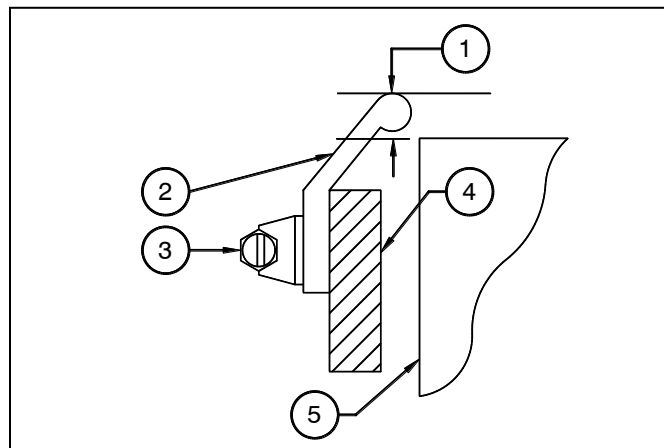

Figure 4.8h
- (1) Take care to prevent dirt or foreign matter from getting into the drive assembly. All parts must be cleaned with a solvent before reassembly and blown dry.
- (2) Seals, packing and gaskets should be replaced whenever the unit is disassembled.
- c. If the lip seal between the drive base housing and the main gear is being replaced, position it as shown in Figure 4.8h. Secure the seal.